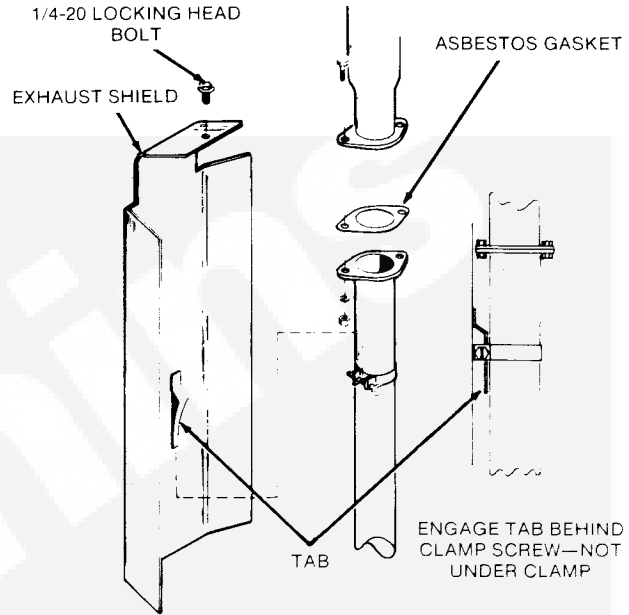

FIGURE 8. EXHAUST SHIELD TAB ENGAGEMENT
2. Install downpipe shield in place by engaging tab (on inside of shield) over the clamp screw (already positioned on downpipe). Downpipe must be positioned so that clamp screw is toward outside of down tube as shown in Figure 8.
3. Install and tighten top 1/4-20 x 1/2 inch locking head bolt through exhaust shield as shown in Figure 8.
4. Recheck and tighten any loose bolts. If downpipe shield is loose, adjust steel clamp higher up on downpipe as shown in Figure 8. With tab properly engaged, tighten securely.
5. Install and connect an approved spark arresting muffler to the downpipe on underside of compartment floor using shock-mounted hanger bracket and 1-5/8 inch automotive U-bolt type clamps ONLY. See Figure 8. Select the appropriate muffler required from Table 1 for the chassis involved.